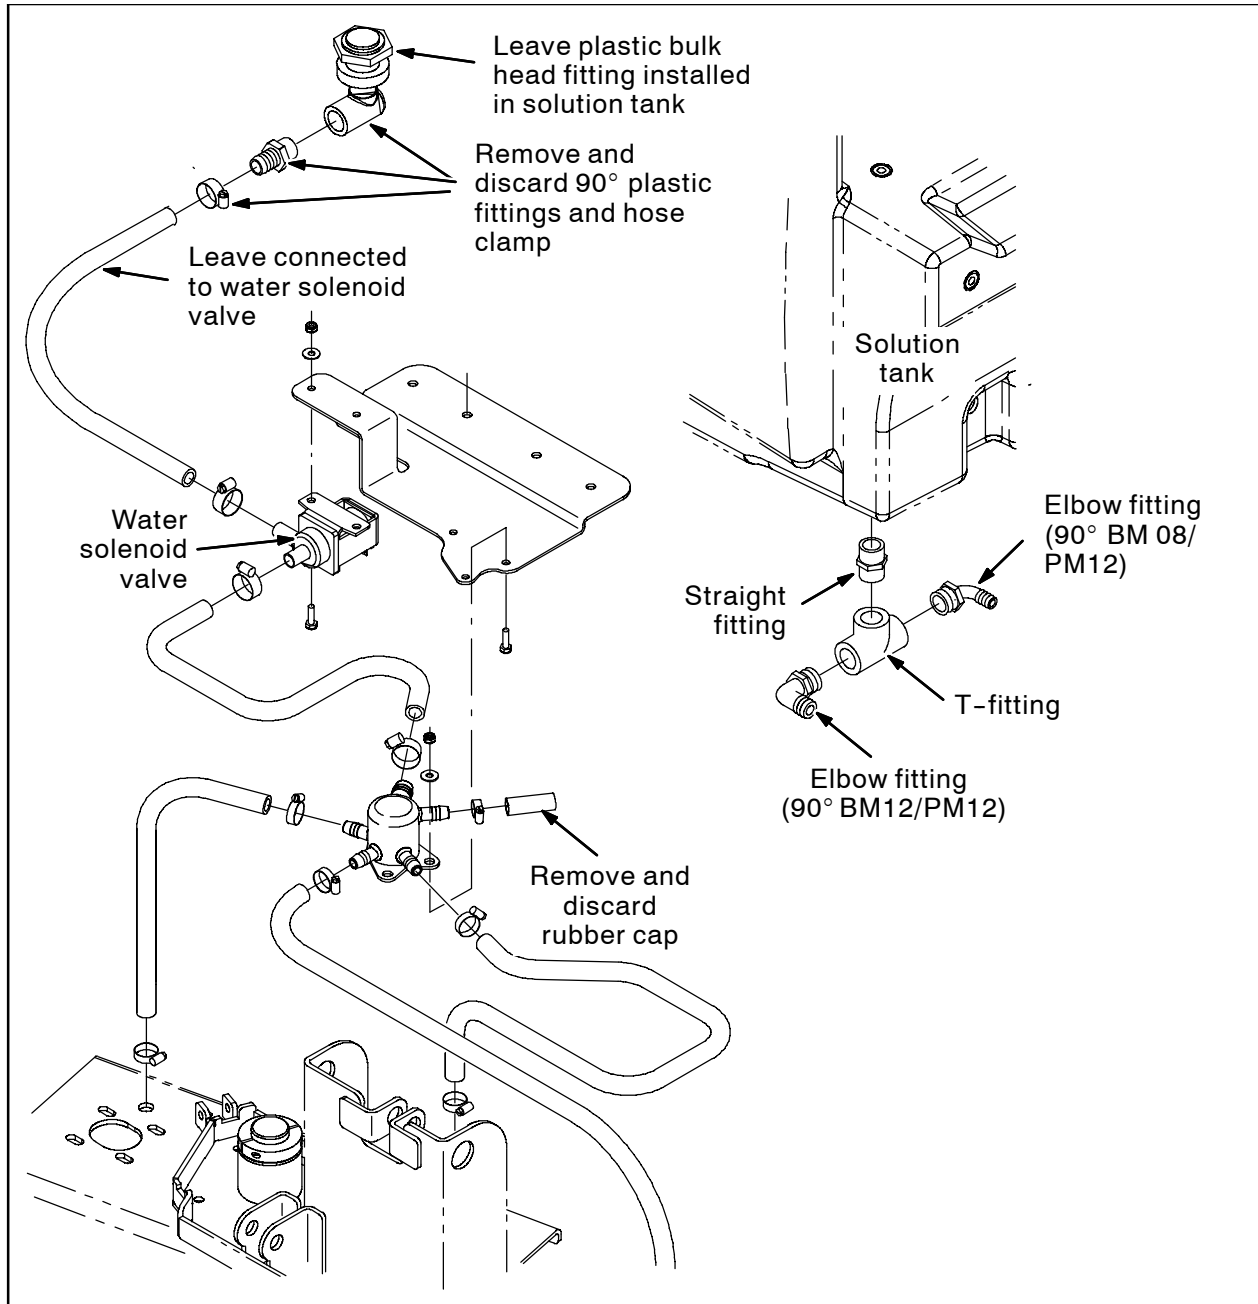
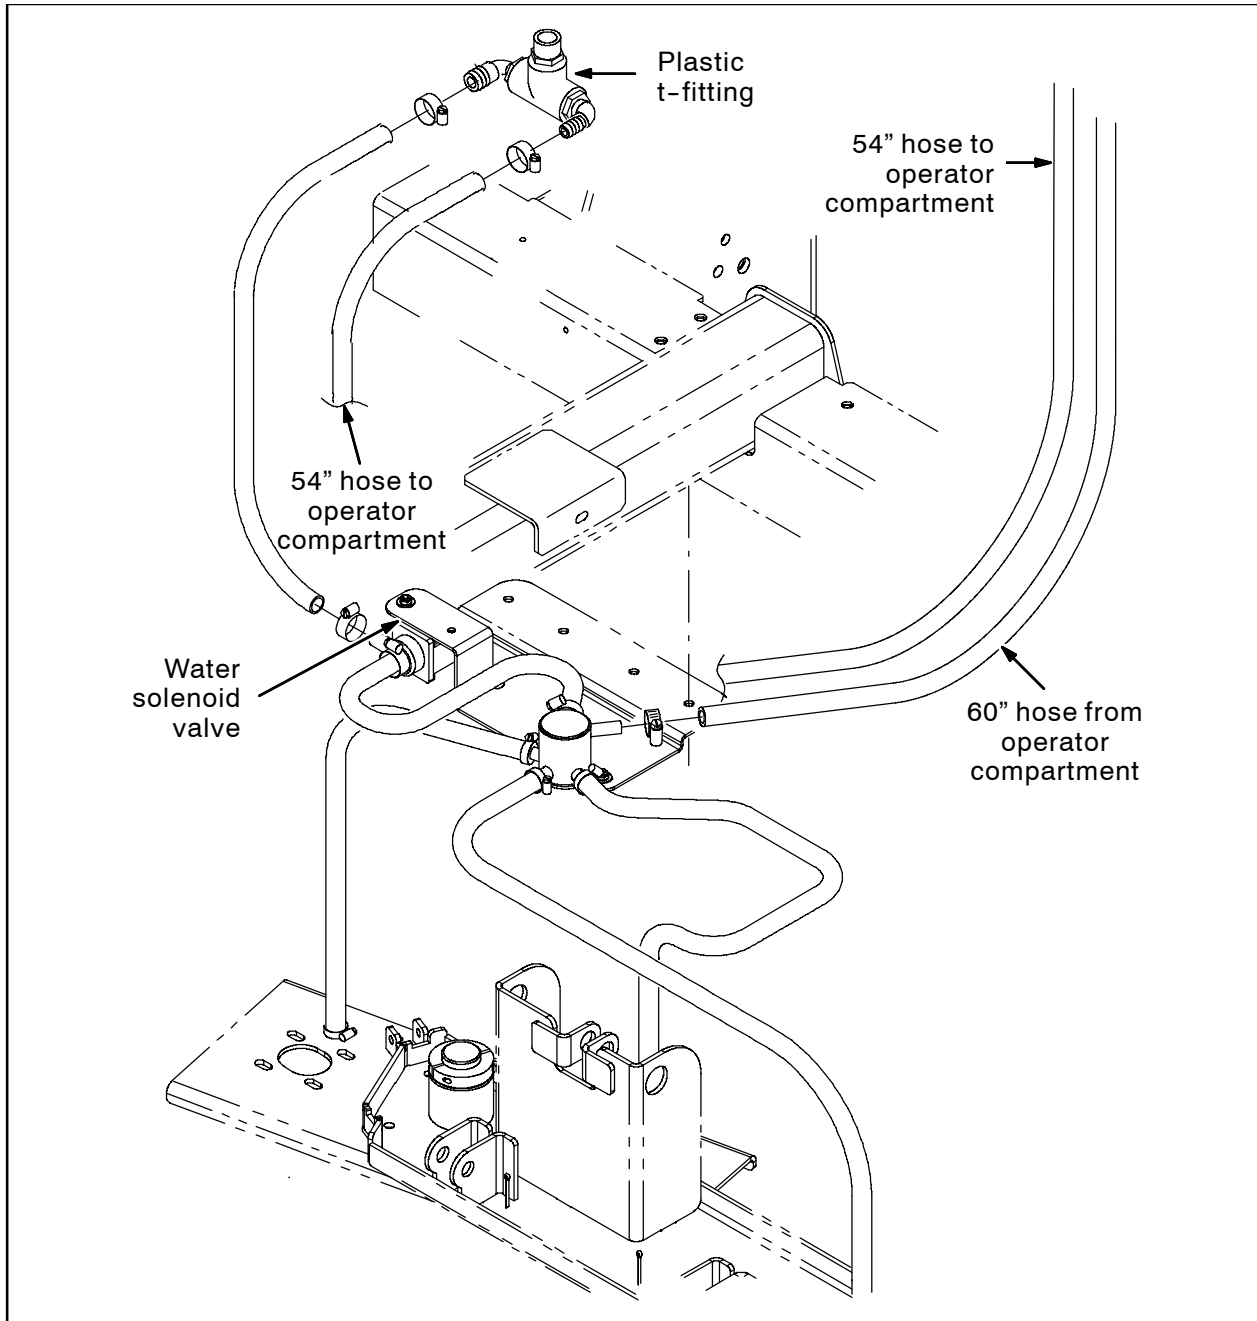

FIG. 1
FIG. 2
1. Remove the rubber cap from the solution control manifold. Discard the cap and hose clamp. Refer to Fig. 1.
2. Disconnect the hose from the 90° fitting on the bottom of the solution tank. Discard the hose clamp. Refer to Fig. 1.
3. Remove the 90° fitting from the plastic bulk head fitting on the bottom of the solution tank. Refer to Fig. 1.
4. Install two 90° fittings and a straight fitting into the t-fitting. Refer to Fig. 1.
5. Install the t-fitting from the previous step into the plastic bulk head fitting on the bottom of the solution tank. Refer to Fig. 1 and Fig. 2.
6. Use a hose clamp to connect the hose disconnected from the removed 90° fitting to the outer 90° fitting on the t-fitting assembly. Refer to Fig. 1 and Fig. 2.
8. Use a hose clamp to connect the 54" PVC hose to the other side of the t-fitting assembly. Refer to Fig. 2.
9. Route the 54" PVC hose over past the top of the scrub head and up into the operator compartment. Refer to Fig. 2.
10. **Machines Without Side Brush Option Only:** Route the 60" PVC hose from the operator compartment and down to the solution control manifold. Refer to Fig. 2.
11. **Machines Without Side Brush Option Only:** Use a hose clamp to connect the 60" PVC hose to the solution control manifold where the rubber cap was previously located. Refer to Fig. 1 and Fig. 2.